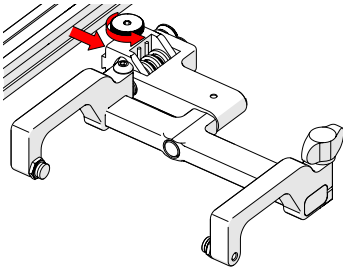

Fig. 115 - Attach probe holder
1. Rotate the probe holder adjustment knob (*Fig. 115*) and attach the probe holder to a pivot mount of a raster arm or frame bar. Tighten the probe holder adjustment knob.